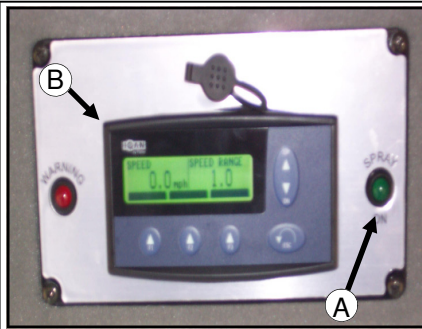

FIG. 29-1
**SPRAY SYSTEM INDICATOR LIGHT**– The spray system indicator light (fig. 29-1, item A) will illuminate when the work mode switch and the main spray control on the hydrostatic lever (fig. 29-2) has been activated. If the light is not on, the spray system is not on.
**MDM**– The MDM (fig. 29-1, item B) is also referred to as the message center. The MDM takes the place of the conventional gauges. This monitor can give you information on tread adjust width, engine RPM, engine oil pressure, hour meter, fuel level, coolant temperature, tire size, battery voltage, speed range, and machine program version. The information can be viewed by using the up and down arrows to move through it. The MDM will also display any faults found in the monitored systems.